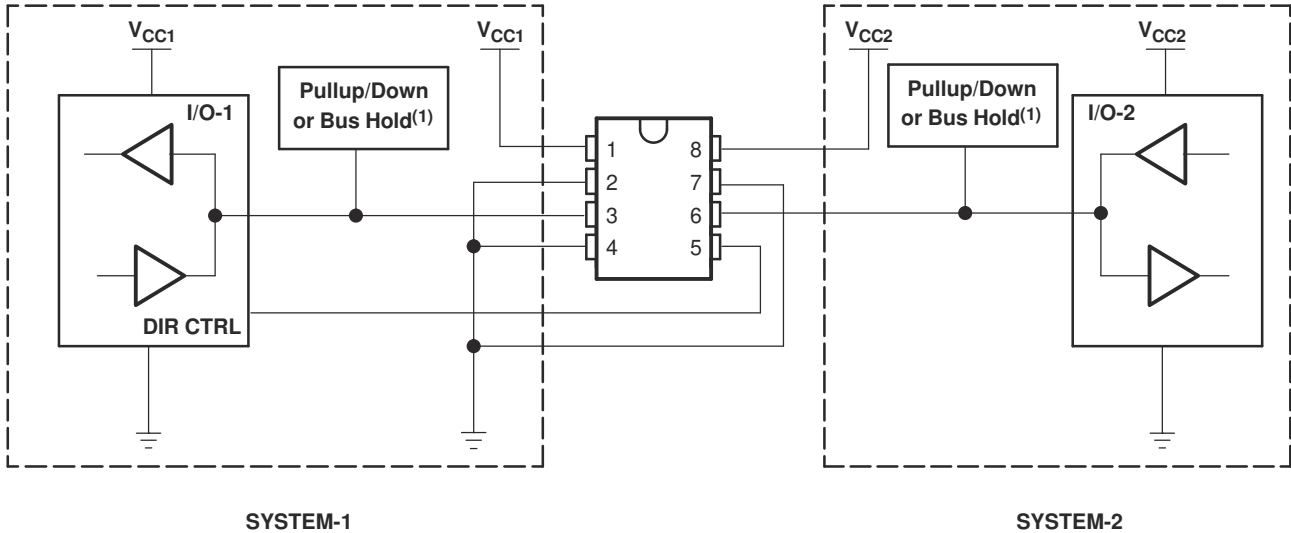

图 9-2. Bidirectional Logic Level-Shifting Application
图 9-2 shows the SN74LVC2T45-Q1 being used in a bidirectional logic level-shifting application. Because the SN74LVC2T45-Q1 does not have an output-enable (OE) pin, the system designer should take precautions to avoid bus contention between SYSTEM-1 and SYSTEM-2 when changing directions.